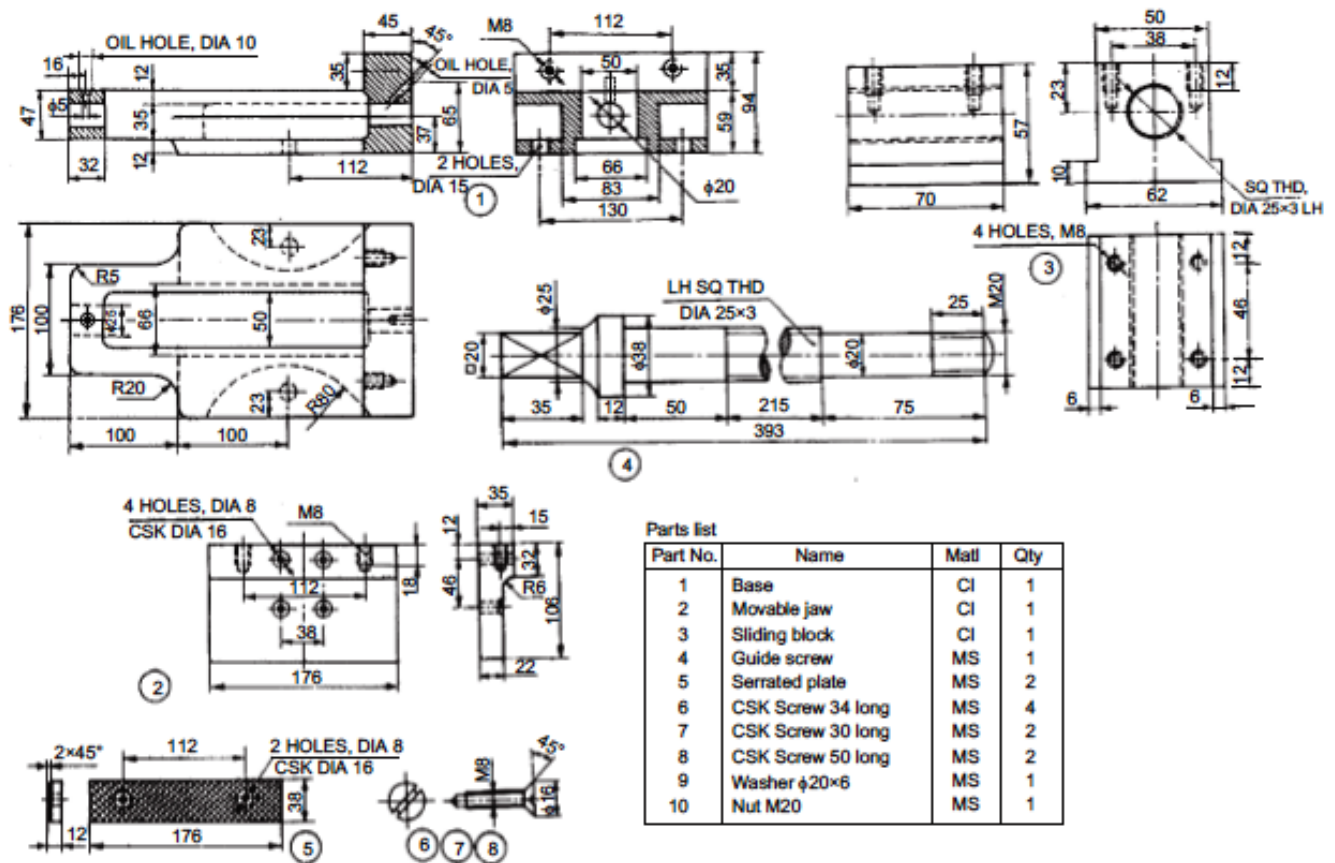

Fig.2
2. Figure 2 shows the details of a machine vice. Assemble the parts and draw, (i) sectional view from the front, (ii) view from above and (iii) view from the left. Use suitable scale. (For Batch: 4MA2)